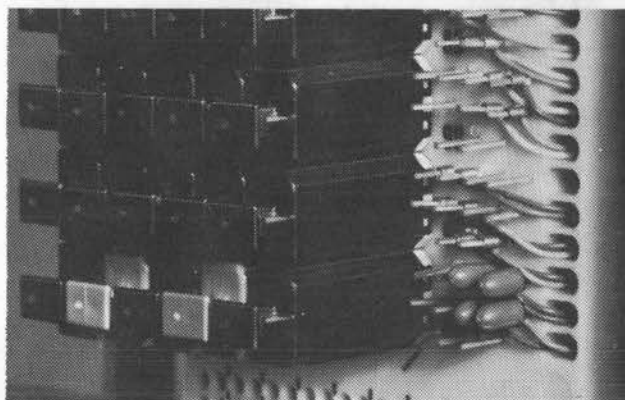

Figure 30
- 10.07 This red colored plastic cap may be used to mark and protect the wire-wrap terminals of special circuits. The cap is designed to fit snugly over a wire-wrap terminal with a wire wrapped in place. (See figure 30.)